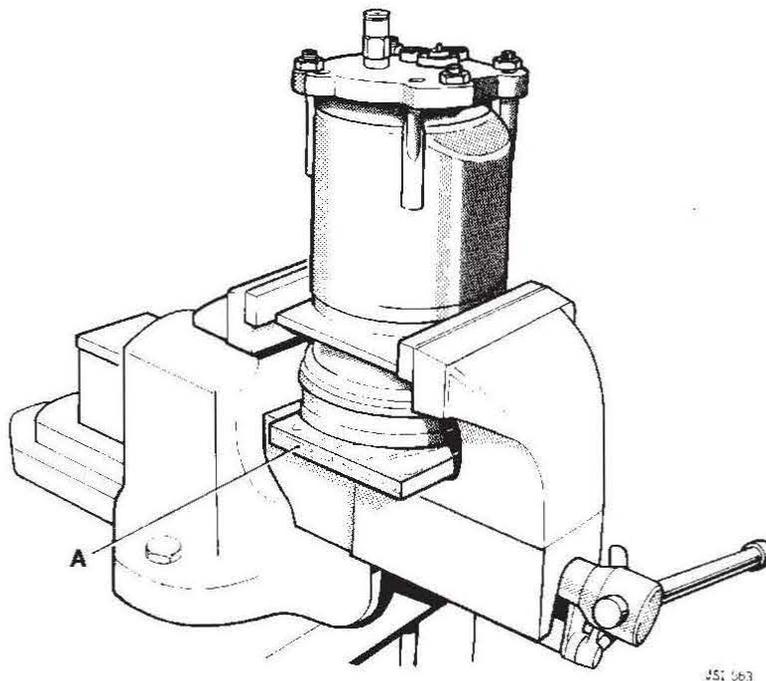

FIG.1
- 4) Place the compressor in a vice as shown in Fig.1 and grip using the forward mounting flange. Do not overtighten. As direct metal to metal contact can result in damage to the clutch drive, place a piece of wood (Fig.1 A) in the vice on which to rest the clutch drive.
IMPORTANT: THE COMPRESSOR MUST BE POSITIONED IN THE VICE AS SHOWN IN FIG.1 TO PREVENT LOSS OF REFRIGERANT OIL WHEN THE REAR HEAD IS REMOVED.